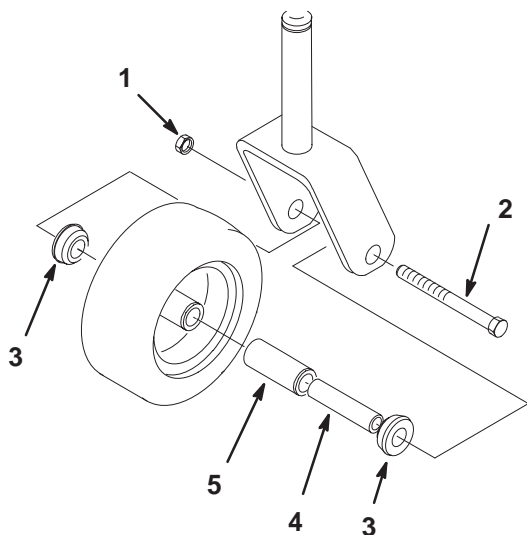

Figure 68
- Remove the locknut and wheel bolt holding the caster wheel to the caster fork (Fig. 68).
- Remove one bushing, then pull the spanner bushing and roller bearing out of the wheel hub (Fig. 68).
- Remove the other bushing from the wheel hub and clean any grease and dirt from the wheel hub (Fig. 68).
- Inspect the roller bearing, bushings, spanner bushing and inside of the wheel hub for wear. Replace any defective or worn parts (Fig. 68).
5. To assemble, place one (1) bushing into the wheel hub. Grease the roller bearing and spanner bushing and slide them into the wheel hub. Place the second bushing into the wheel hub (Fig. 68).
6. Install the caster wheel into the caster fork and secure with the wheel bolt and locknut. Tighten the locknut until the spanner bushing bottoms against the inside of the caster forks (Fig. 68).